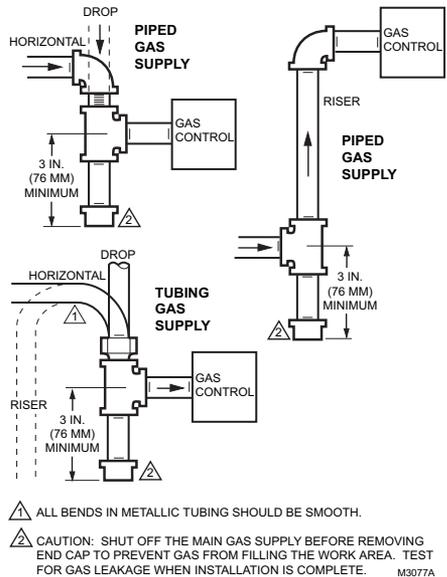

Fig. 1. Sediment trap installation.
3. Install a sediment trap in the supply line to the control. See Fig. 1.